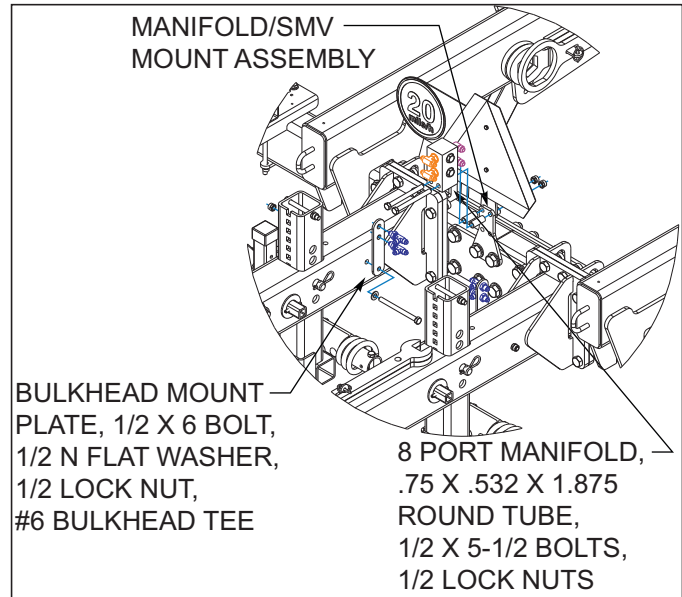

Figure 3-40: 8 Port Manifold Installation 2411-06
9. Models 2411-06 install the 8 port manifold to rear of manifold/smv mount assembly with 1/2 x 5-1/2 bolts, 1/2 lock nuts as shown *See Figures 3-40.* Install
10. Models 2411-06 install the #8 bulkhead 90° adapter to center frame plate as shown *See Figures 3-40.*